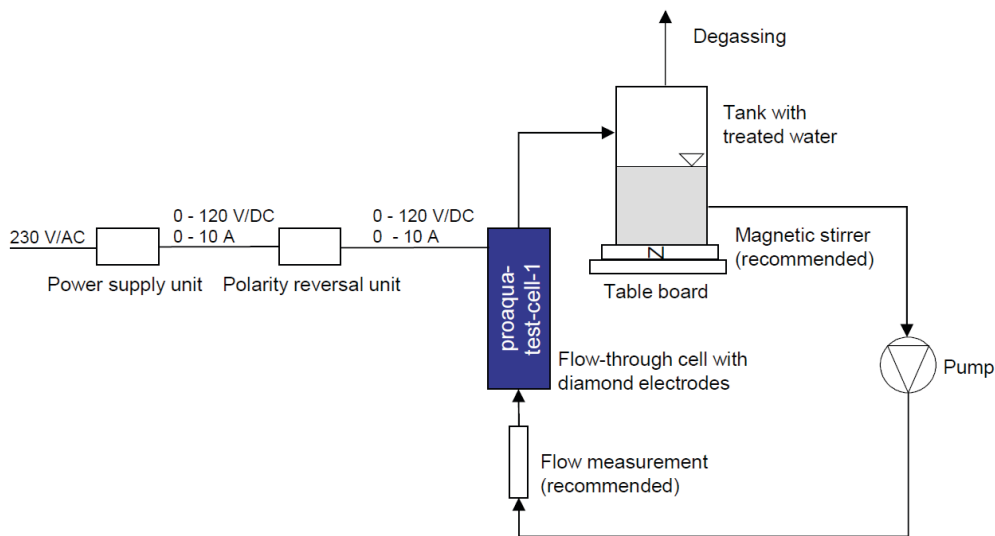
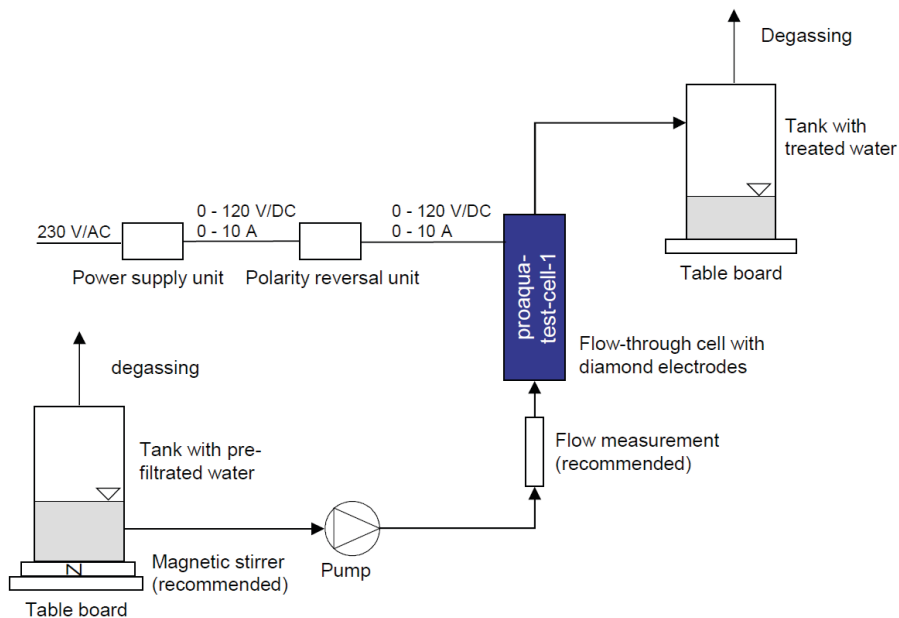

Figure 1: Test: Recycling
Figure 2: Test: Flow-through
Two possibilities for a test set-up are demonstrated below. Figure 1 demonstrates the test “Recycling” and figure 2 the test “Flow-through”. Please also note comment-1.
- pro aqua Diamantelektroden Produktion GmbH does not assume responsibility/liability for the implementation of the tests in Figure 1 and Figure 2.